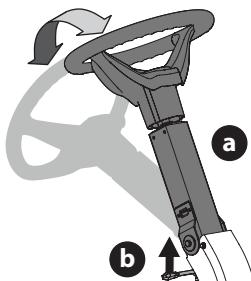

Figure 9
1. To tilt the steering wheel column (a) forward, lift the steering column adjustment lever (b), place the steering wheel column (a) in the desired position and then release the steering wheel column adjustment lever (b) to secure the steering wheel column in place (Figure 9).